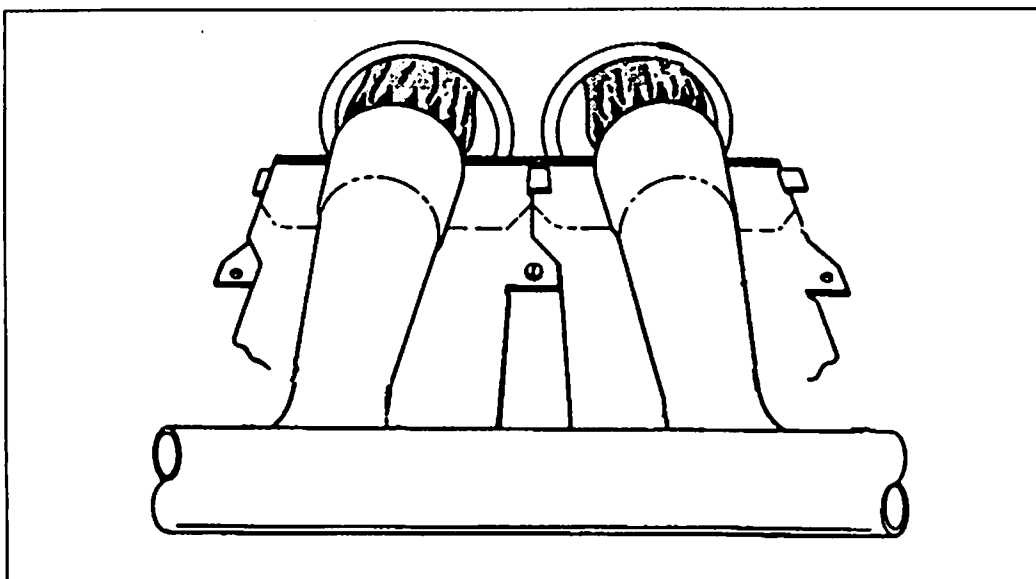

Figure 4. Burner Inspection
7. After the flame ignites, visually inspect the burner assembly to ensure that the flame is drawn directly into the center of the heat exchanger tube, as shown in Figure 4. The end of the flame will be out of sight around the bend of the heat exchanger tube. In a properly adjusted burner assembly, the flame color should be blue with some light yellow streaks near the outer portions of the flame.